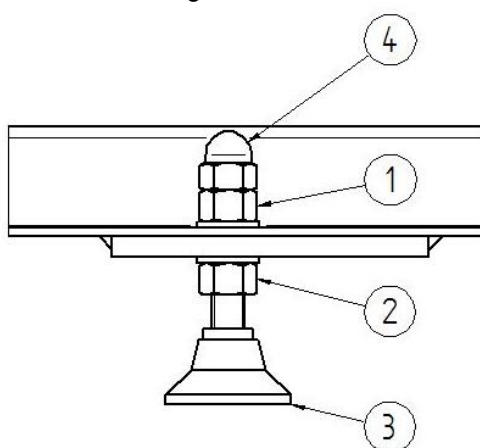

Fig. 9 – Mounting without foundation (schematic diagram)
2. Install the levelling feet as shown in Fig. 9